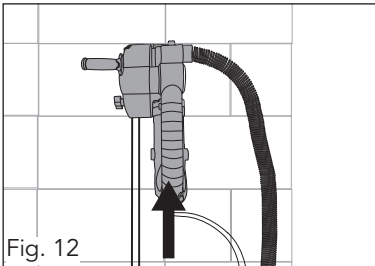
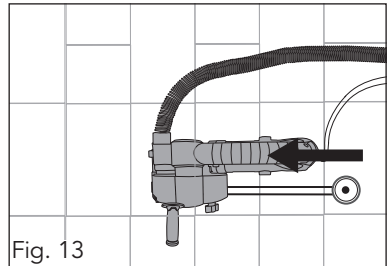

Fig. 12
Fig. 13
- Always push the wall chaser in the direction of cut, e.g. from bottom to top (fig. 12) or with horizontal cuts, away from operator (fig. 13).